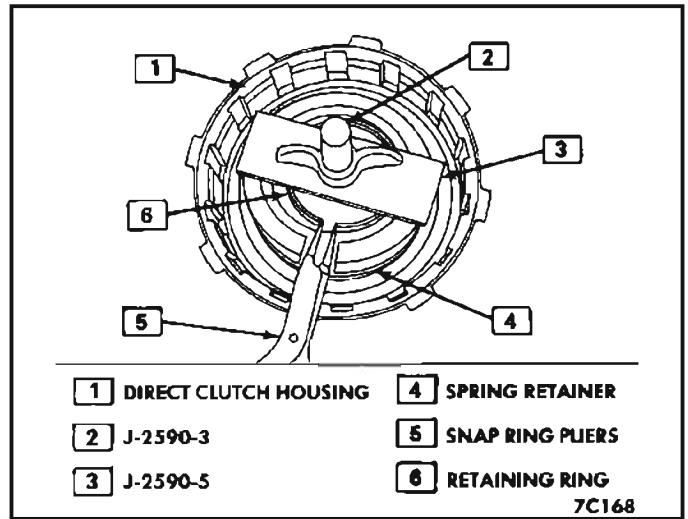

Figure 57 Piston Snap Ring
8. Remove direct clutch piston return spring seat retaining ring and spring seat by using Tools J-2590-3, J-2590-5 and snap ring pliers. *See Figure 57.*
4. Install spring retainer and springs. Compress spring retainer and install retaining ring, use Tools J 2590-3 and J-2590-5. See Figure 57.